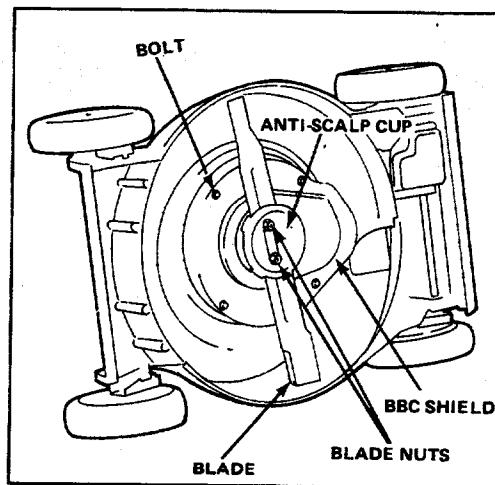

Figure 35
4. Remove (2) blade nuts, anti-scalp cup, blade, blade spacer, and (4) bolts securing BBC shield to mower deck (Figs. 35 & 36).